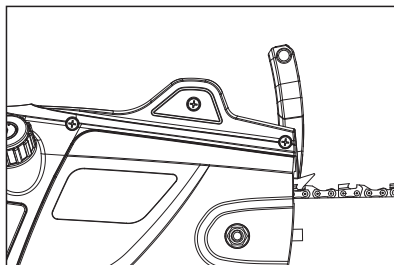

Fig. 5a
- 1). The chain brake in the disengaged position, the product can be operated (Fig. 5a).